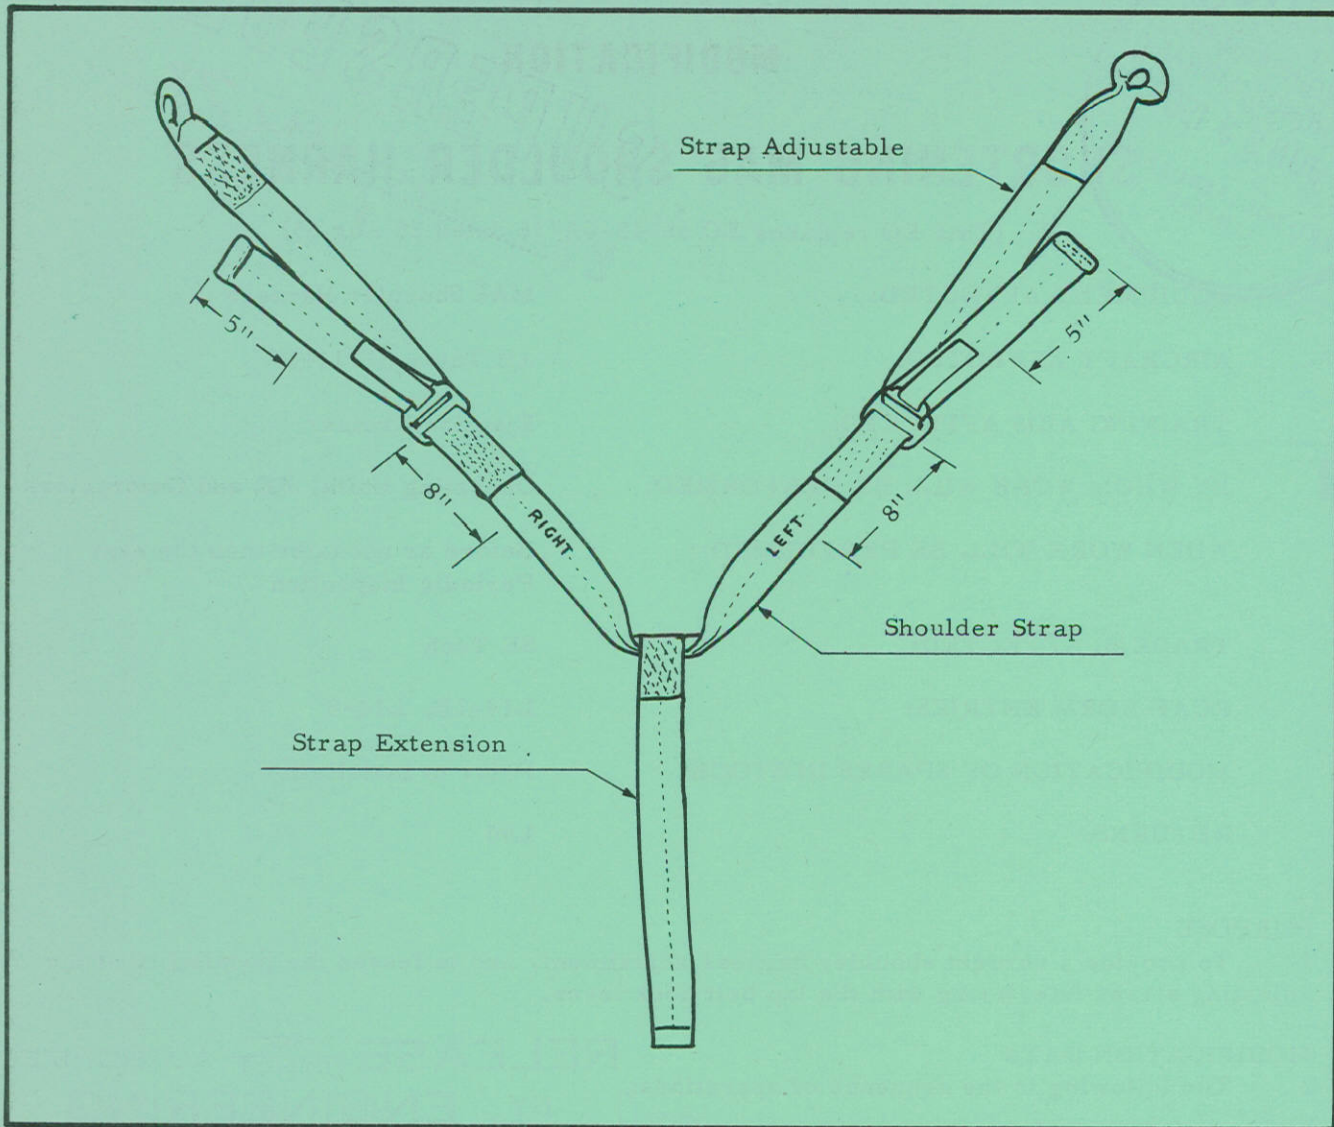

Figure 1 Safety Harness Type MA6
- (b) Measure 5" from the free end of each adjustable strap, and cut off. Remove the shortened straps from the shoulder harness and retain for re-installation, see Figure 1.
- (c) Measure 8" from the slot of each quick release adjustable buckle, and mark the harness, see Figure 1.